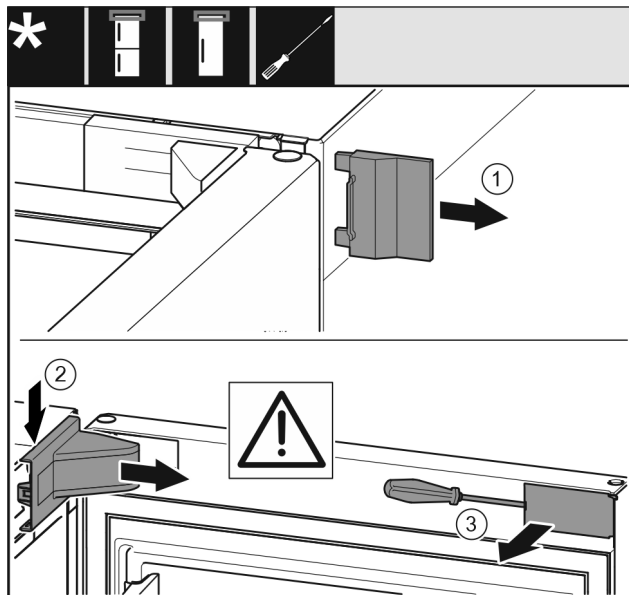

Fig. 6
- Remove the outer cover. *Fig. 6 (1)*
- Disengage and release the bearing bracket cover. Remove the bearing bracket cover. *Fig. 6 (2)*
- Unlatch the panel with a slotted screwdriver and swivel it to one side. *Fig. 6 (3)*